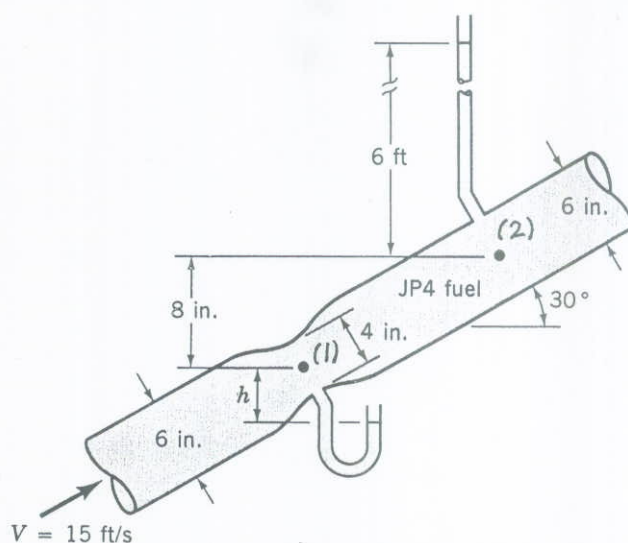

FIGURE P3.82
3.82 JP-4 fuel ( $SG = 0.77$ ) flows through the Venturi meter shown in Fig. P3.82 with a velocity of 15 ft/s in the 6-in. pipe. If viscous effects are negligible, determine the elevation,  $h$ , of the fuel in the open tube connected to the throat of the Venturi meter.